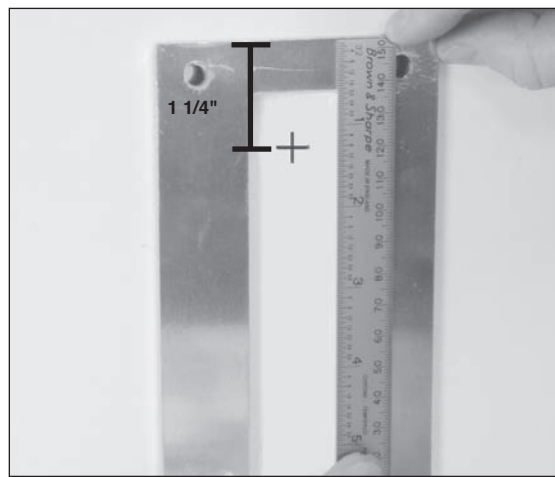

Fig. 10 - Measure & Mark Cable Routing Hole
3. Measure and mark an additional 16mm (5/8") hole for cable routing approximately 32mm (1 1/4") from the top of the cable routing plate. (See Figure 10.)